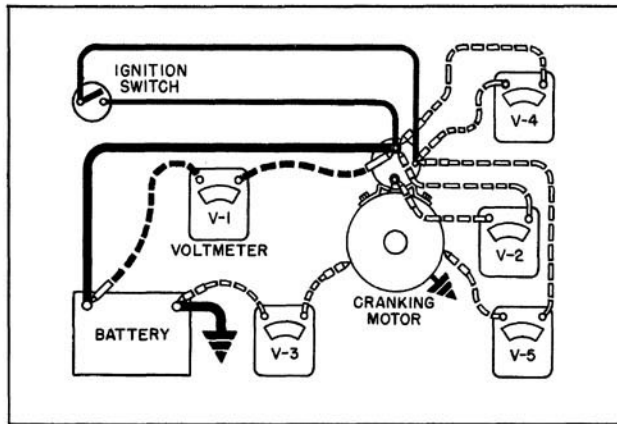

Fig. 13-62 Checking Starter Circuit Resistance
2. Measure the voltage drop (V1) during cranking between the positive battery post and the "battery" terminal of the solenoid. (Fig. 13-62)